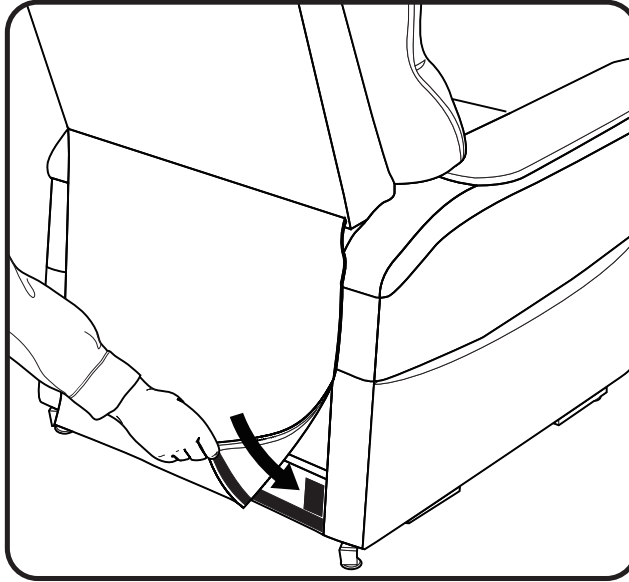

Figure 5.1
- 5** Attach the chair-back to the hook and loop aps on the bottom of the chair base.(See Figure 5.1)